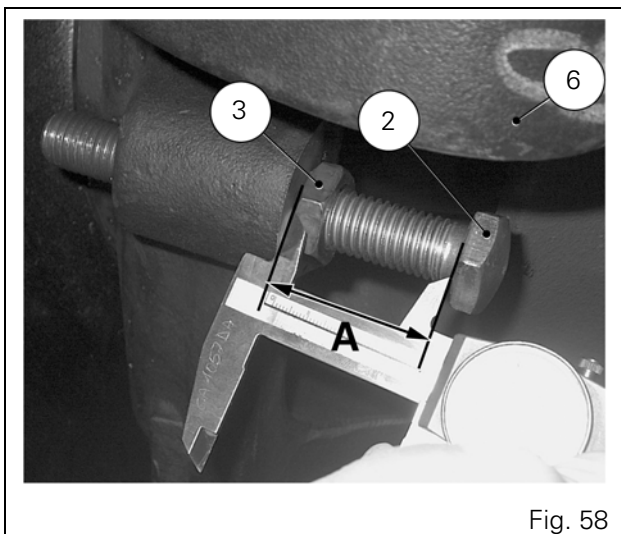

Fig. 58
Adjust the turning lock stops by tightening or loosening the screws (2) and locking down the lock nut (3) (Fig. 58).
**NOTE:** The front axles are intended for a turning lock of 55°. The length (A Fig. 58) of the screw (2) between the base of the head and the swivel housing should be approx. 90 mm (Model 760/601) and approx. 45mm (Model 750/601).